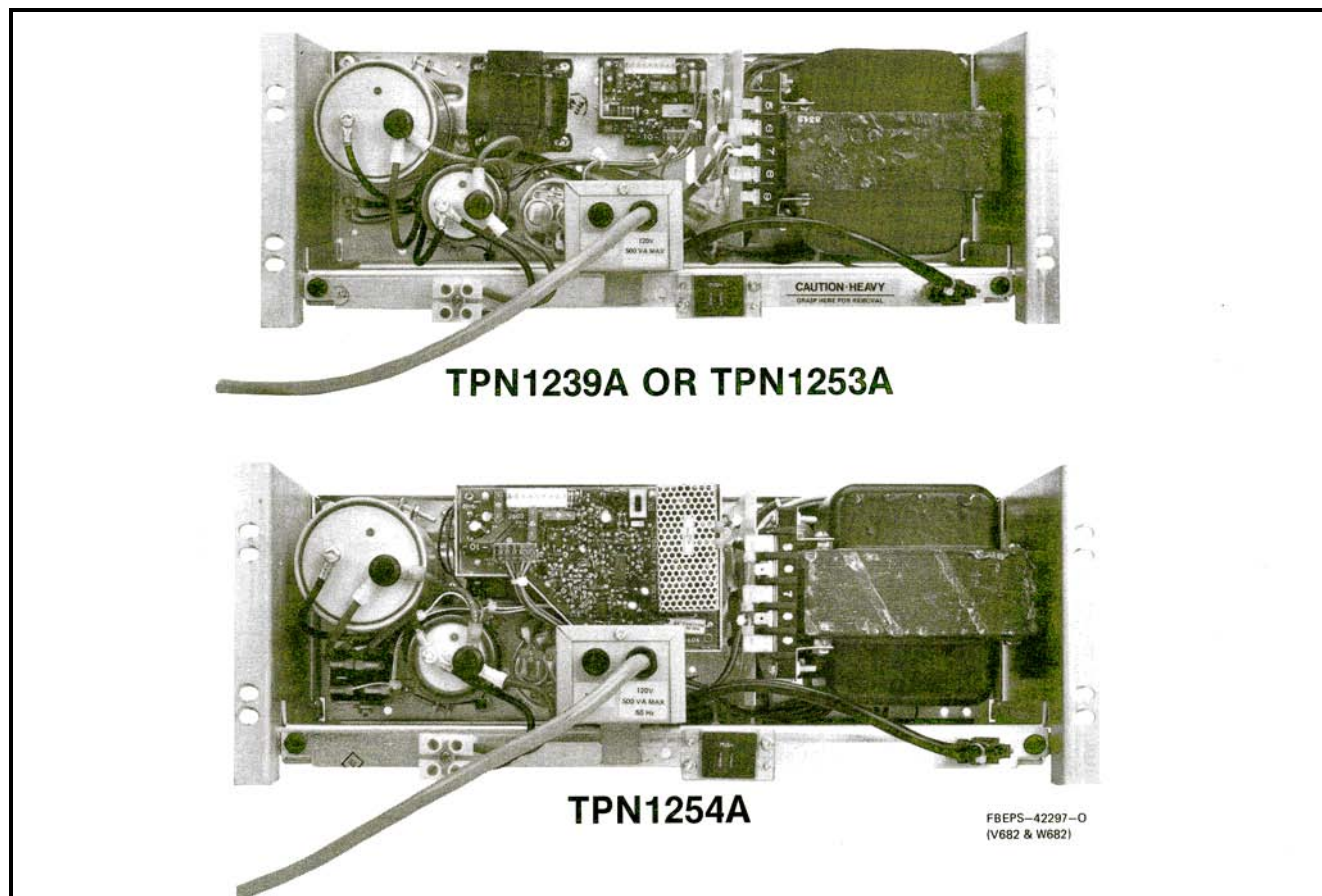

Figure 1. Power Supplies
(See Figure 1)
1.1 Models TPN1239A, TPN1253A, and TPN1254A are all high efficiency, solid state, power sources for operation of Fixed Communications equipment installations. These three power supplies are similar in that the main sections (e.g., transformer, rectification and filtering) are electronically the same. These associated power supplies are shown in Figure 1. The output of all these power supplies have high current 14 V dc unregulated and 13.8 V dc regulated outputs.